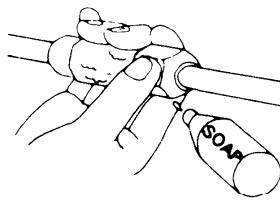

Fig. 10
(1) Air Purging Procedure (Conventional evacuation system)
- a) Check gas leakage of all joints with liquid soap. Fig. 10